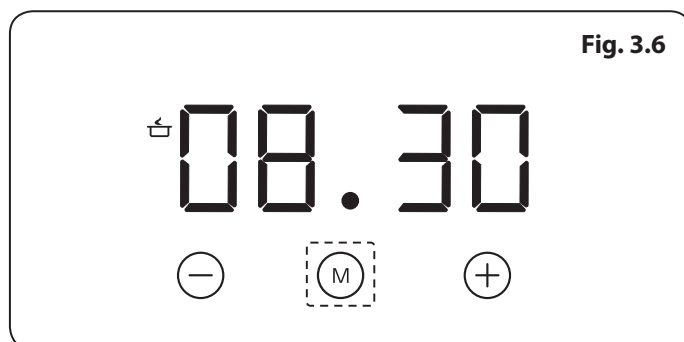

Fig. 3.6
- Touch 'M' until the **cooking time** indicator flashes (**Fig. 3.6**).